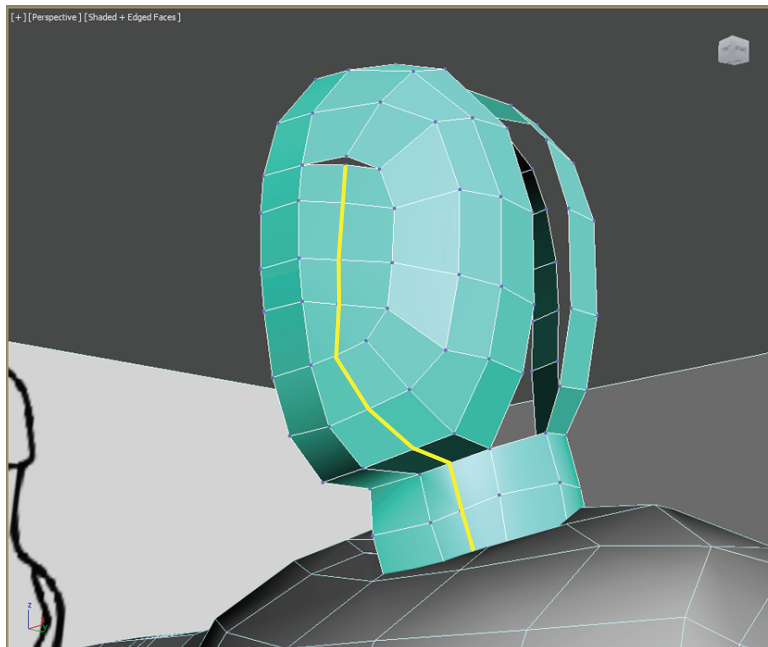

FIGURE 9.12 Use the Cut tool to create a new edge running down the front of the face.
15. From the Graphite Modeling Tools tab, choose Edit to access the Cut tool, and then cut from the dead-end edge at the top of the face down to the bottom of the neck, as shown in Figure 9.12. Make sure you start and end the cut directly on the vertices.